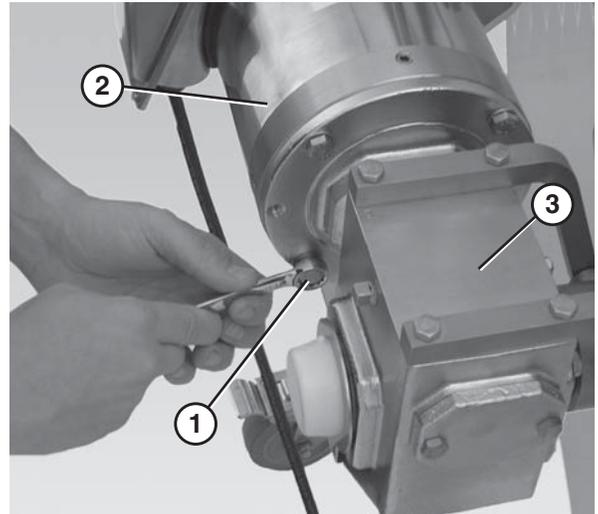

Figure 13
1. Remove the bolts (Figure 13, item 1) that connect the motor (Figure 13, item 2) to the gear reducer (Figure 13, item 3).